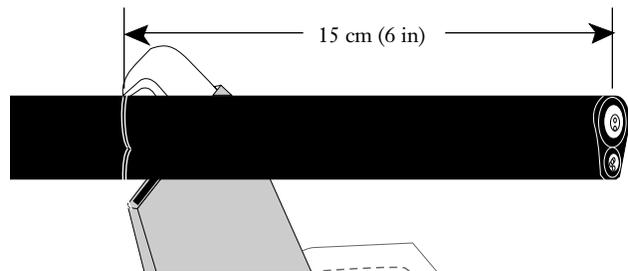

Figure 4
5.5 Use the hook blade to make a second ring cut 6 inches (15 cm) from the end of the cable (Figure 4).